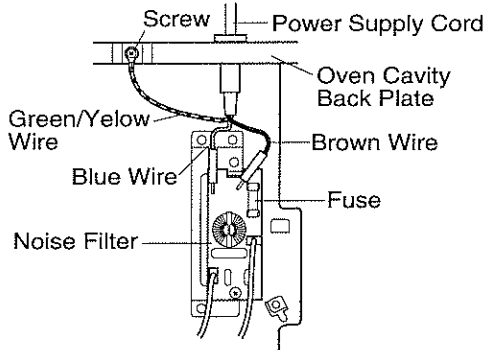

Figure C-3 (a). Power Supply Cord Replacement
4. Release the moulding cord stopper of the power supply cord from the square hole of the oven cavity back plate, referring to the Figure C-3 (b).